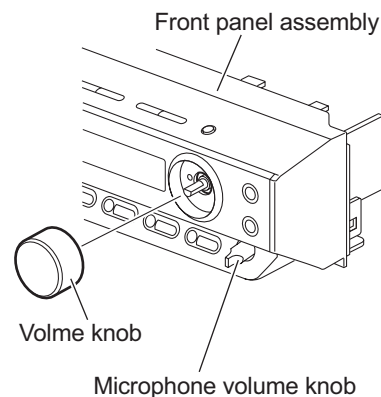

Fig.17
- (1) From the front side of the front panel assembly, pull out the microphone volume knob. (See Fig.17.) [US/UW/UG version]
- (1) From the front side of the front panel assembly, pull out the volume knob. (See Fig.17.)